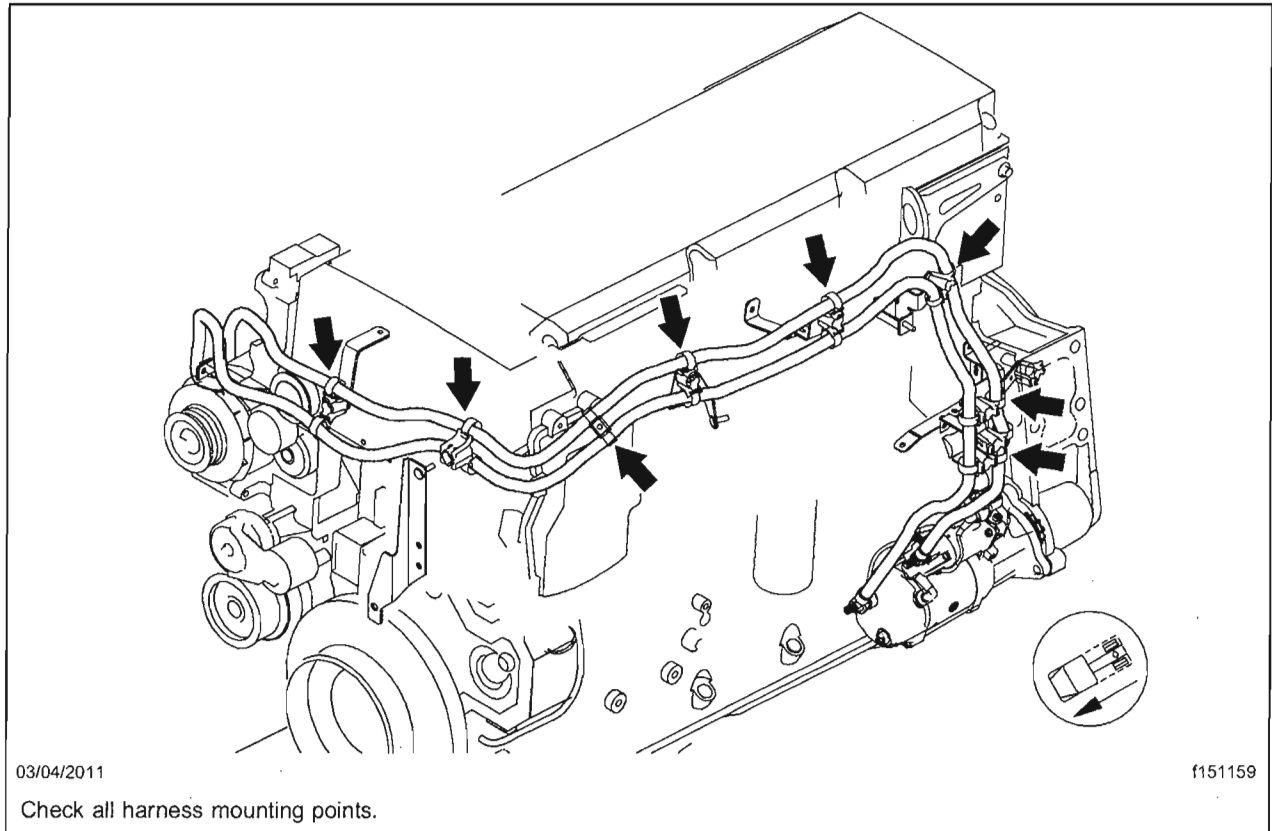

Fig. 4, Harness Installation Inspection
19. Inspect the charging cable routing from the alternator to the starter. Both charging cables must be routed and secured inside the dual standoff clamps along the routing. If either of the cables is not routed inside the dual standoff clamps, replace the clamps as needed, and route the charging cables inside a new dual standoff clamp (23-13322-008, additional clamps are not in the recall kit). See Fig. 4.